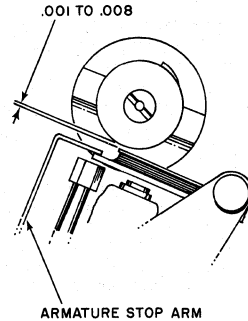

Figure 2
3. Form the armature stop arm so the armature has .001" to .008" clearance to the low surface of the clutch sleeve when the armature is not attracted to the clutch magnet coils (Figure 2).